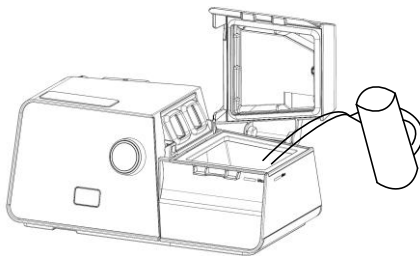

Fig. 14-4
(2) Open the cap, and fill the water chamber with approximately 360 ml of water, as shown in Fig. 14-4. Make sure that the water does not exceed the maximum water level line.